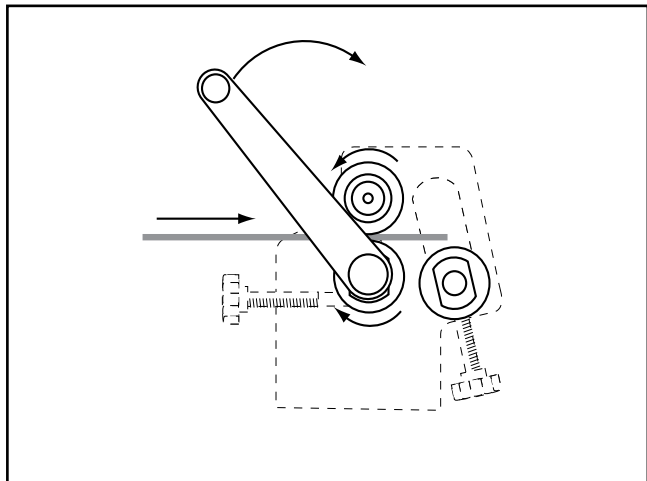

Figure 15. Feeding the workpiece.
- Turn the crank clockwise to feed the workpiece until its edge is directly above the rear roller, as shown in **Figure 15**.